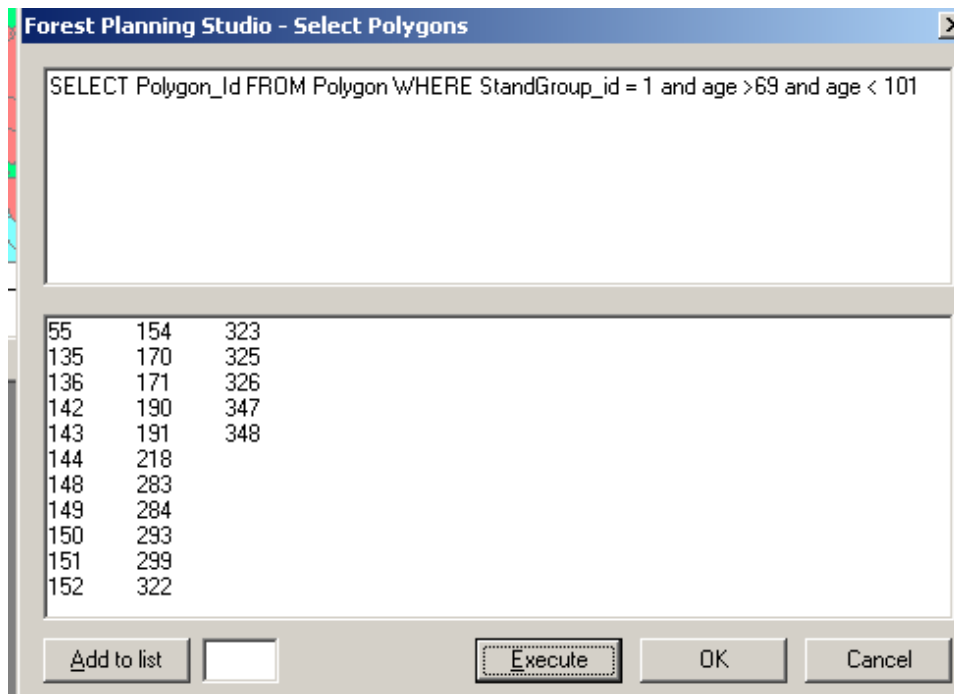

Figure 59: SQL syntax for finding stands for commercial thinning.
- 12.3.4 Select *Execute* and *OK*, eligible stands should be highlighted (figure 59).